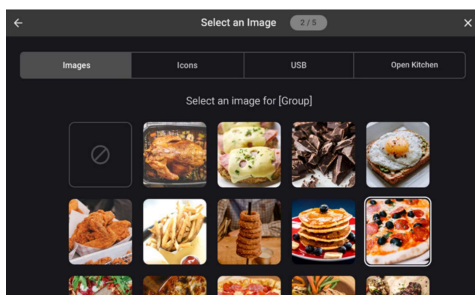

Figure 28: Select Image for New Recipe
- Select an image and touch the blue “Next” button (Figure 28, below).